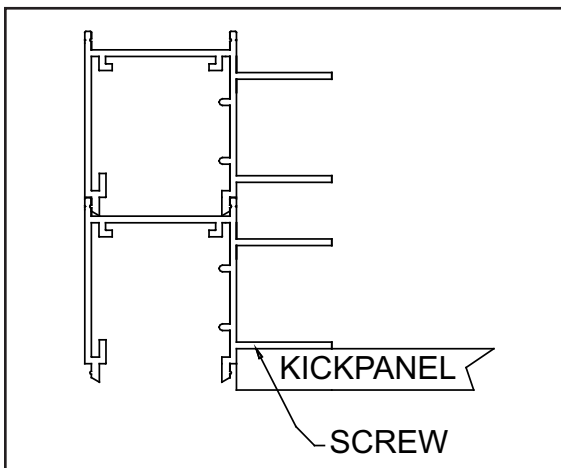

Figure 6
- 6)** Snap On frame covers and install Kickplate (if ordered) (See Figure 6).